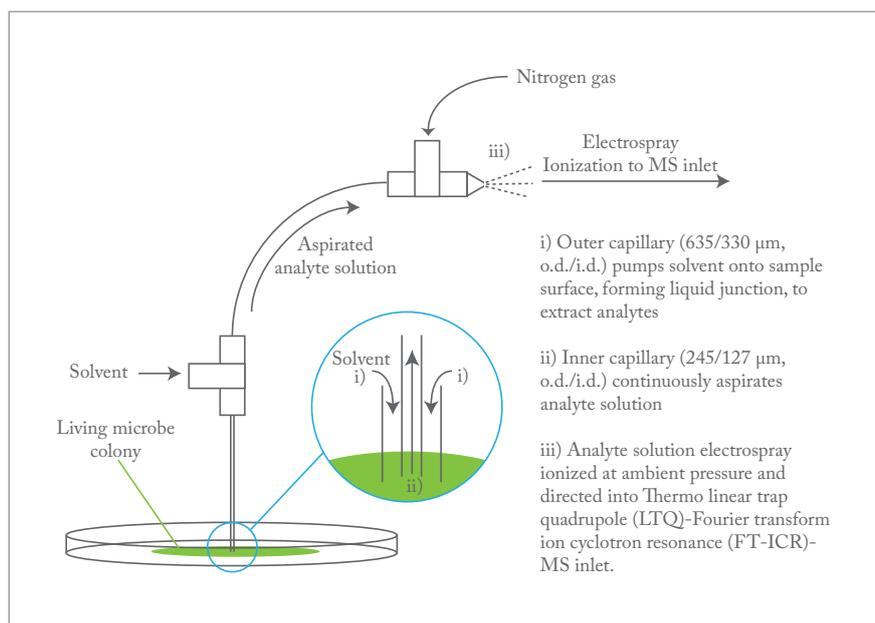

Fig 1. Real-time MS analysis of microbial colonies using coaxial flow probe and ambient electro-spray ionization.
To achieve their goal, researchers in Dorrestein's lab at the University of California, San Diego are directly sampling analytes of living microbe colonies ahead of electrospray ionization (ESI) and tandem mass spectral analysis (1). The key component is a liquid microjunction surface-sampling probe (LMJ-SSP). It is based on a device developed by Van Berkel at Oak Ridge National Laboratory, which comprises two co-axial capillary tubes that simultaneously deliver and aspirate solvent (see Figure 1).